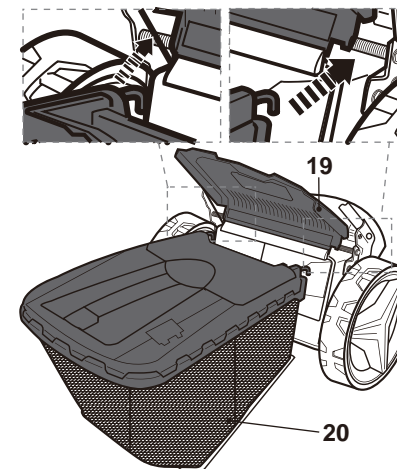

Fig. 7
1. Remove the covers from the hooks on the grass catcher (20).
2. Open the rear deflector guard (19) hold it in position and align the hooks on the grass catcher (20) with the rod to hang it onto it (Fig. 7).